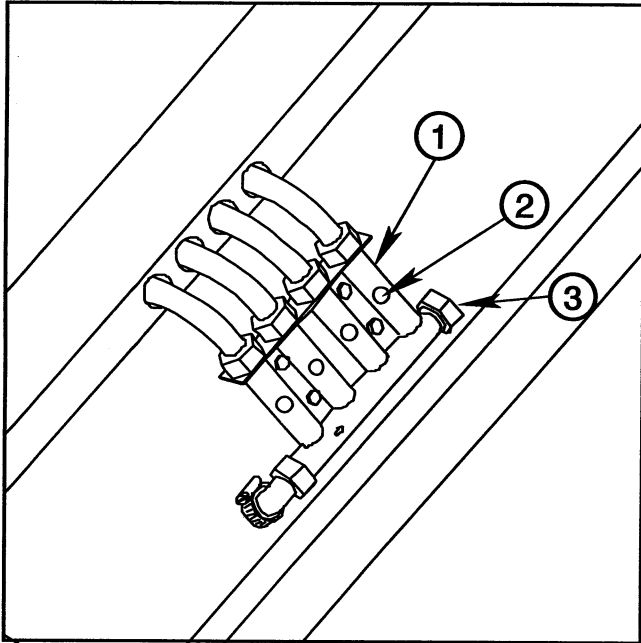

FIG. 3.
2. When there is flow, all the floating balls should be at the same level. If a ball is lower than the others, this indicates a clogged nozzle. See FIG. 3.